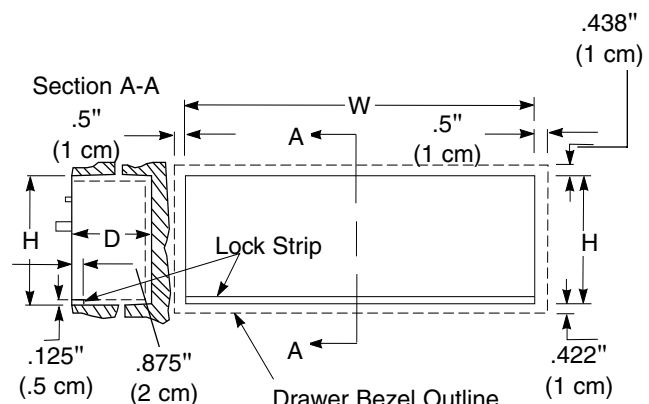

Figure 7. Built-In Cutout Dimensions
3. Determine the cabinet size opening using the chart in Figure 7.
a lock strip (not supplied by Hatco) must be permanently fastened to the lower front inside lip of the cabinet opening. See Figure 7.